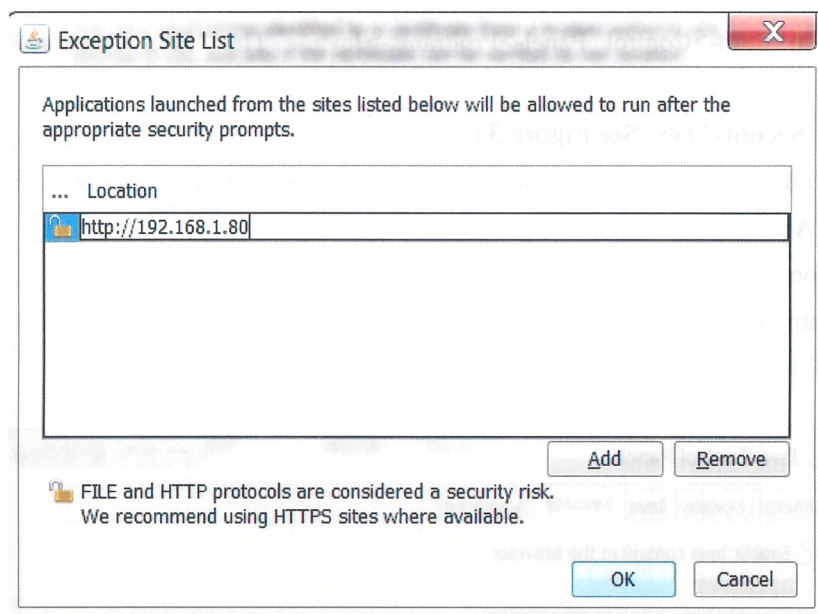

Figure 32. Java Exception Site List
- Press the 'Edit Site List' button. The 'Exception Site List' dialog is displayed. See Figure 32